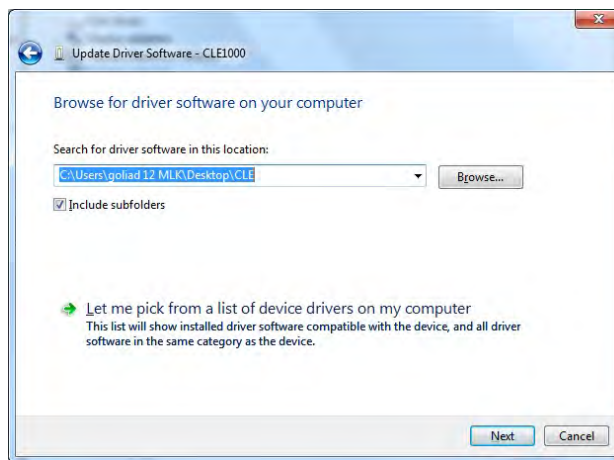

FIGURE 32. UPDATE DRIVER WINDOW
- b) Select **Browse My Computer for Driver** from Windows dialog. See Figure 32.